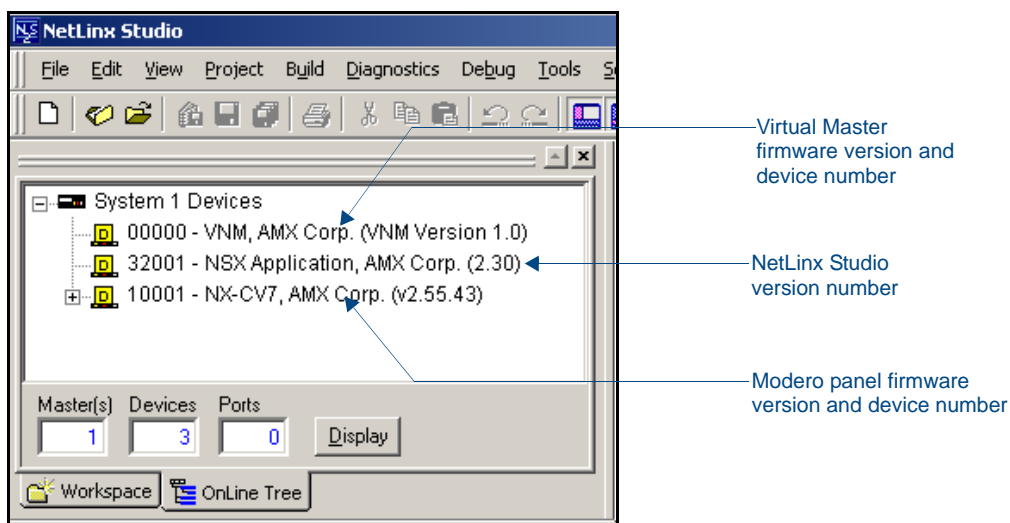

FIG. 48 NetLinx Workspace window (showing the panel connection via a Virtual NetLinx Master)
3. After the Communication Verification dialog window verifies active communication between the Virtual Master and the panel, click the **OnLine Tree** tab in the Workspace window (FIG. 48) to view the devices on the Virtual System. *The default System value is one.*
4. Right-click on the System entry (FIG. 48) and select **Refresh System** to re-populate the list. Verify the panel appears in the **OnLine Tree** tab of the Workspace window. *The default Modero panel value is 10001.*
3. After the Communication Verification dialog window verifies active communication between the PC and the Master, verify the panel appears in the **OnLine Tree** tab of the Workspace window (see FIG. 48 on page 65). *The default Modero panel value is 10001.*